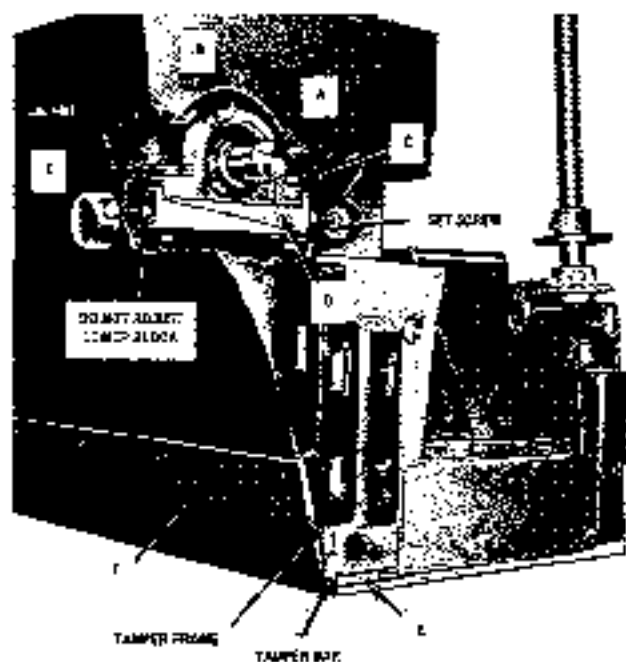

FIGURE I-7 - Adjusting Tamper
CAUTION - The tamper positioning adjustment is factory set, do not attempt to adjust. (Refer to Figure I-7.)
1. Turn tamper eccentric shaft, (A) Figure I-7, so that the keyways at the eccentric bearings (B) are down. This puts the tamper at the bottom of the stroke.
It is also important that the correct relationship between the tamper and screed be maintained horizontally. There must be .015" to .018" clearance between the face of the tamper and the leading edge of the screed, Figure I-7.
CHANGING TAMPER BARS (Refer to Figure I-7)